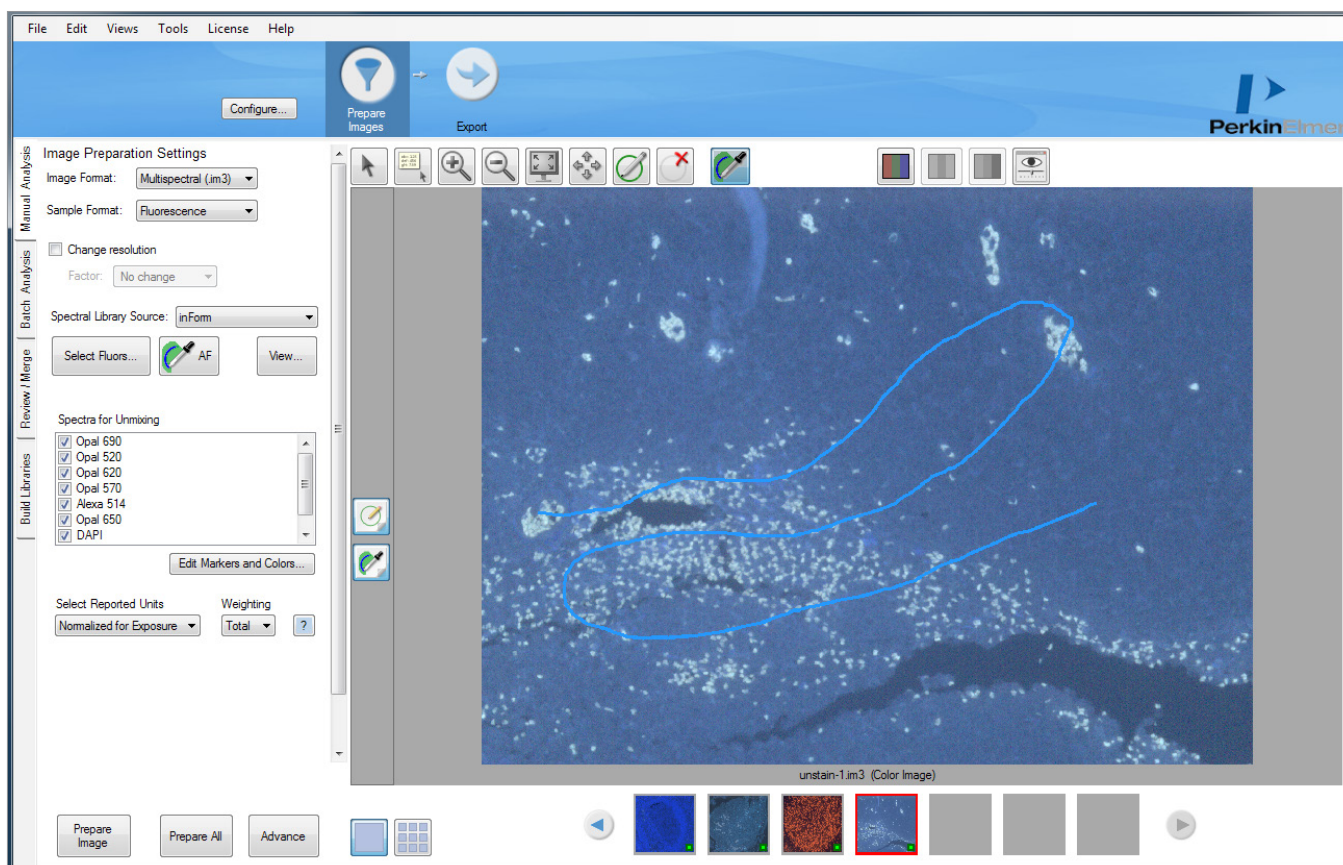

Figure 11. Collection of tissue autofluorescence signal.
- In Manual Analysis, load images of the spectral library slides including the autofluorescence (AF) unstained sample.
- Collect the autofluorescence signature from the AF unstained sample with the AF sampling tool. Capture autofluorescence only from areas with tissue, avoiding areas without tissue. (Figure 11) Include red blood cells in your autofluorescence samples if present. In some cases, we find that capturing a pure red blood cell fluorescence spectrum leads to more effective unmixing.